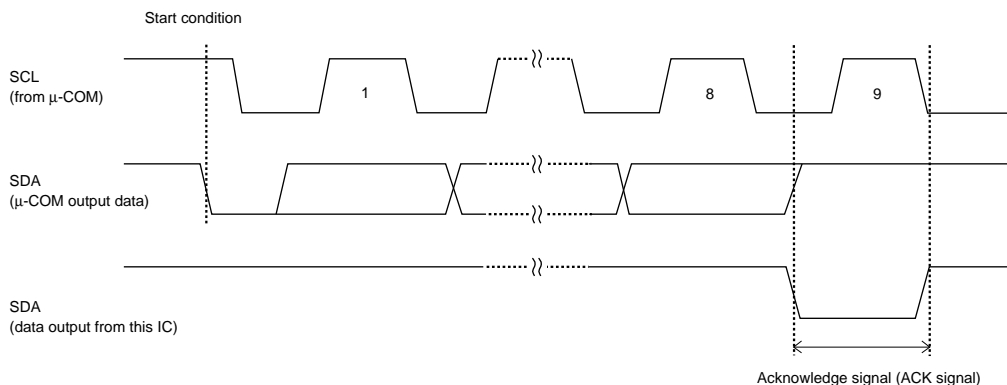

Fig. 7 Acknowledge signal (ACK signal) response
(3) ACK signal
- In the various reading operations, 8-bit data (read data) is output, and then the acknowledge signal (ACK signal) in the LOW state is detected. If the acknowledge signal (ACK signal) is detected and no stop condition is sent from the master (microcomputer) side, this IC continues to output data. If the acknowledge signal (ACK signal) is not detected, this IC interrupts the transmission of data, recognizes a stop condition (stop bit), and terminates the reading operation. The IC then enters the standby mode. (Refer to "Fig. 7 acknowledge signal (ACK signal) response.")